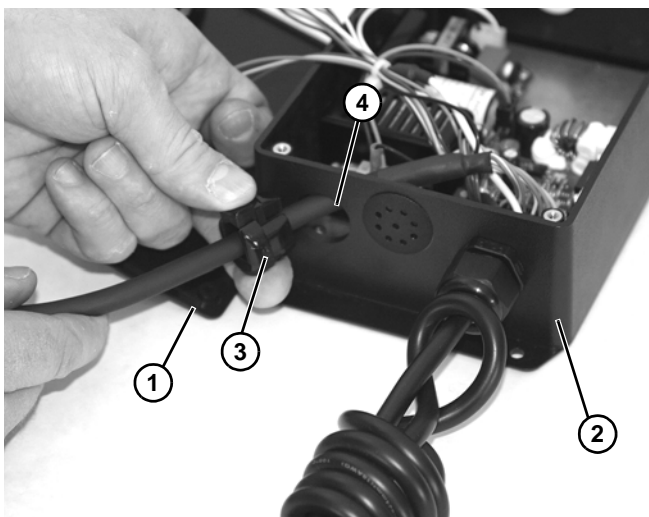

Figure 36
2. Remove four screws and cover (Figure 36, item 1) from controller (Figure 36, item 2).
3. Pull out cord retainer (Figure 36, item 3) from controller opening (Figure 36, item 4).